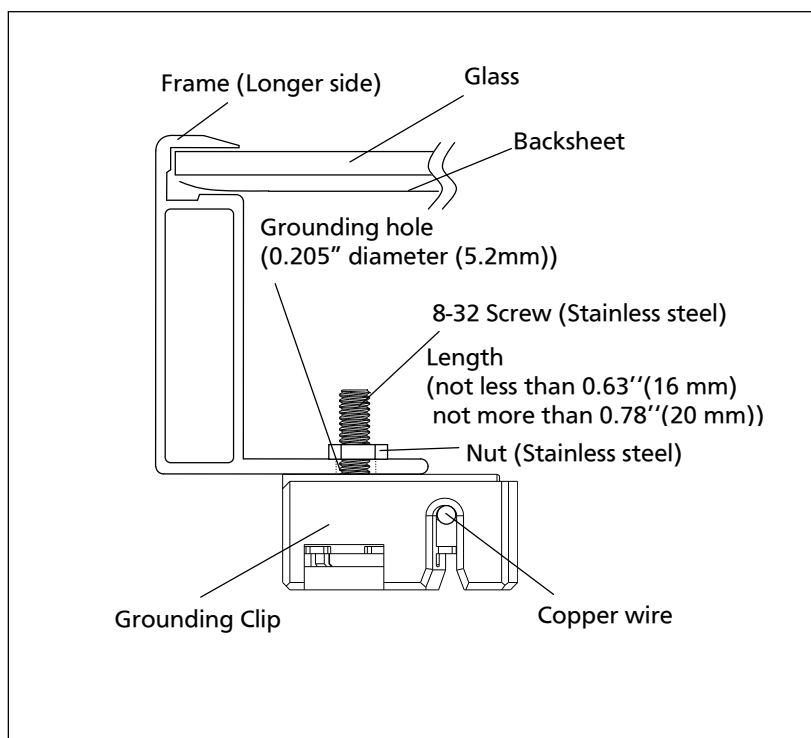

Figure 3.7
- As shown in figure 3.7, place the grounding clip onto the module frame.